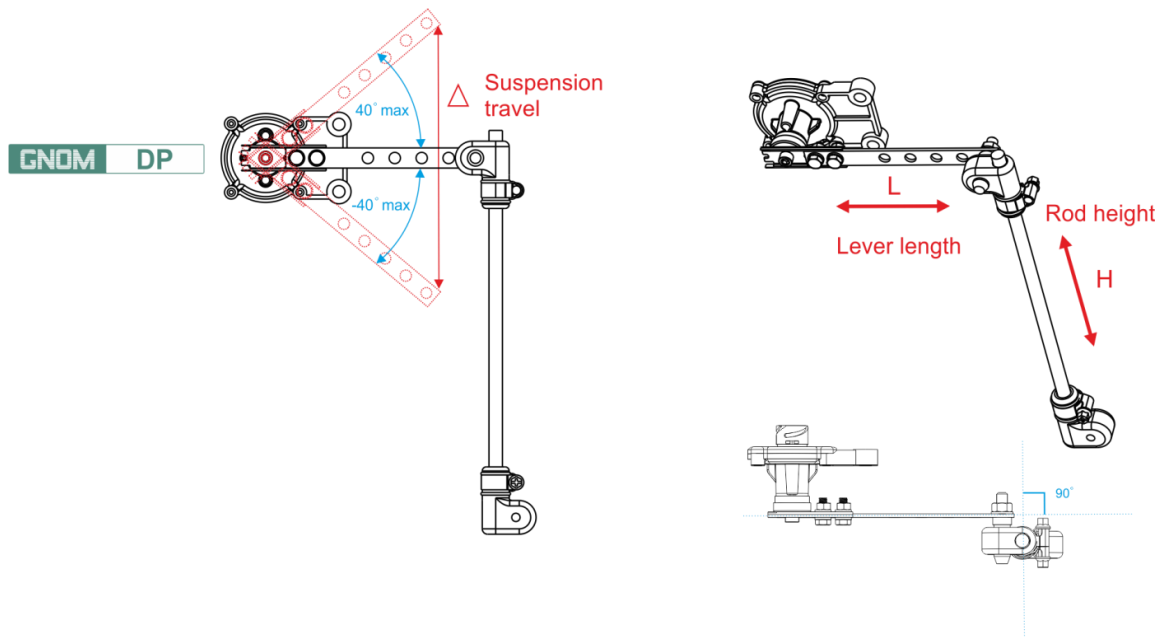

Figure 20 — Adjusting GNOM MK DP rod and lever for GNOM DP mounting
Initial adjustment of the rod height (H) and the lever length (L) (see figure 20) should be performed on a completely unloaded Vehicle.